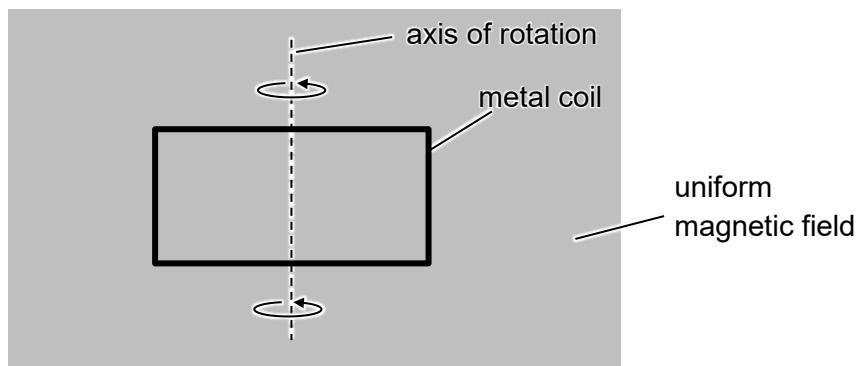

Fig. 8.2
- (b) Fig. 8.2 shows a simple generator where a metal coil rotates at a constant angular velocity about a vertical axis in a uniform magnetic field.